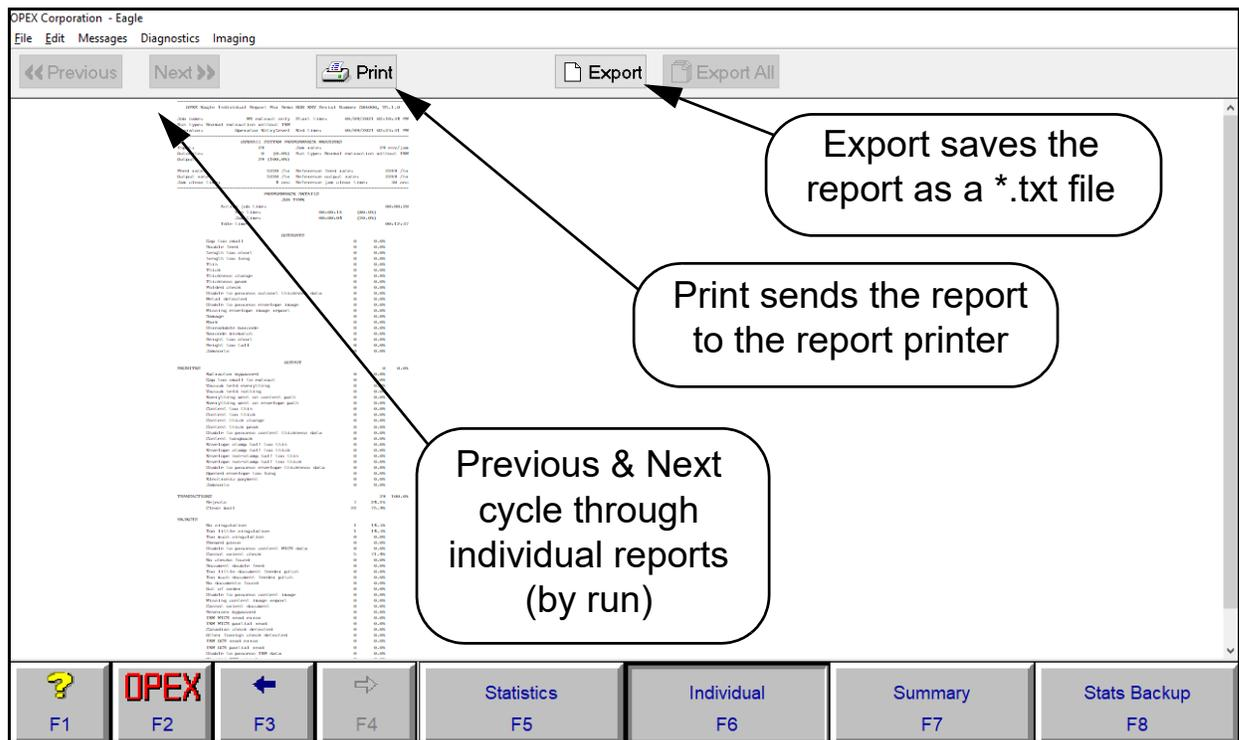

Figure 4-3: Sample individual report
- Click **Individual (F6)** or **Summary (F7)** to create the report (Figure 4-3). By default, reports are saved to C:\OPEX\Eagle\Support on the host computer.